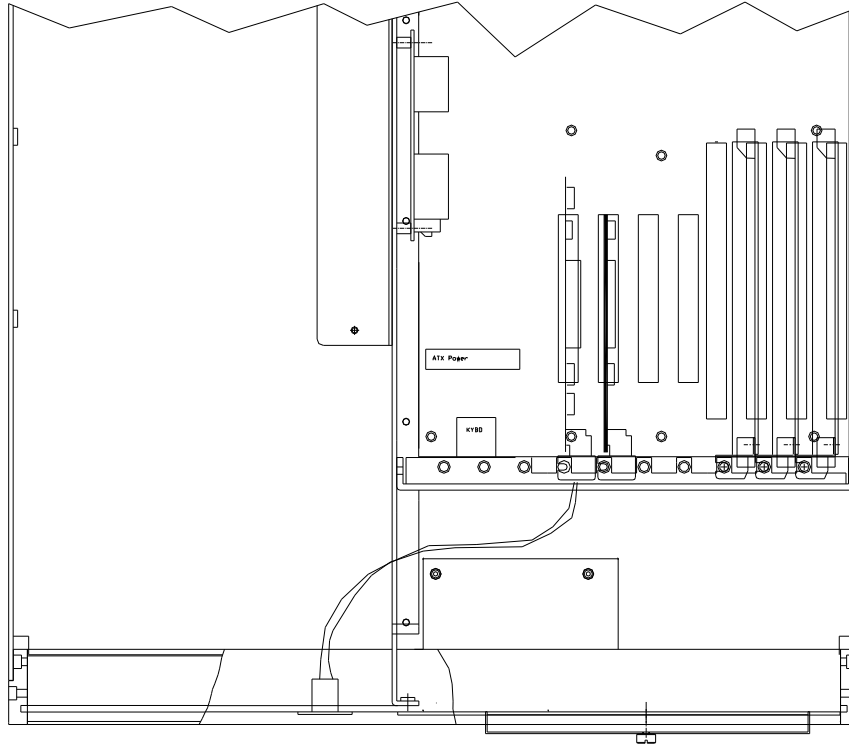

Figure 6-2 VMIC Card Inserted into Acutrol3000 Chassis
- **VMIPCI-5565 Card.** This card is installed into an empty PCI slot in the Acutrol3000 backplane and secured with a mounting screw. See Figure 6-2